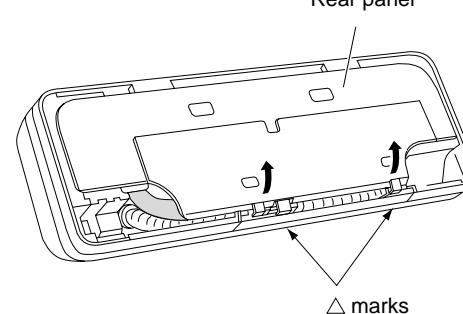

Fig. 6a
- (2) Press the 2  $\triangle$  marks on the frame cover and disengage the stationary tabs from the frame. (Fig. 6a)
- (3) Remove the rear panel.
Tubing can be extended in 5 directions as shown in Fig. 6a. Select the direction you need providing the shortest run to the outside unit.